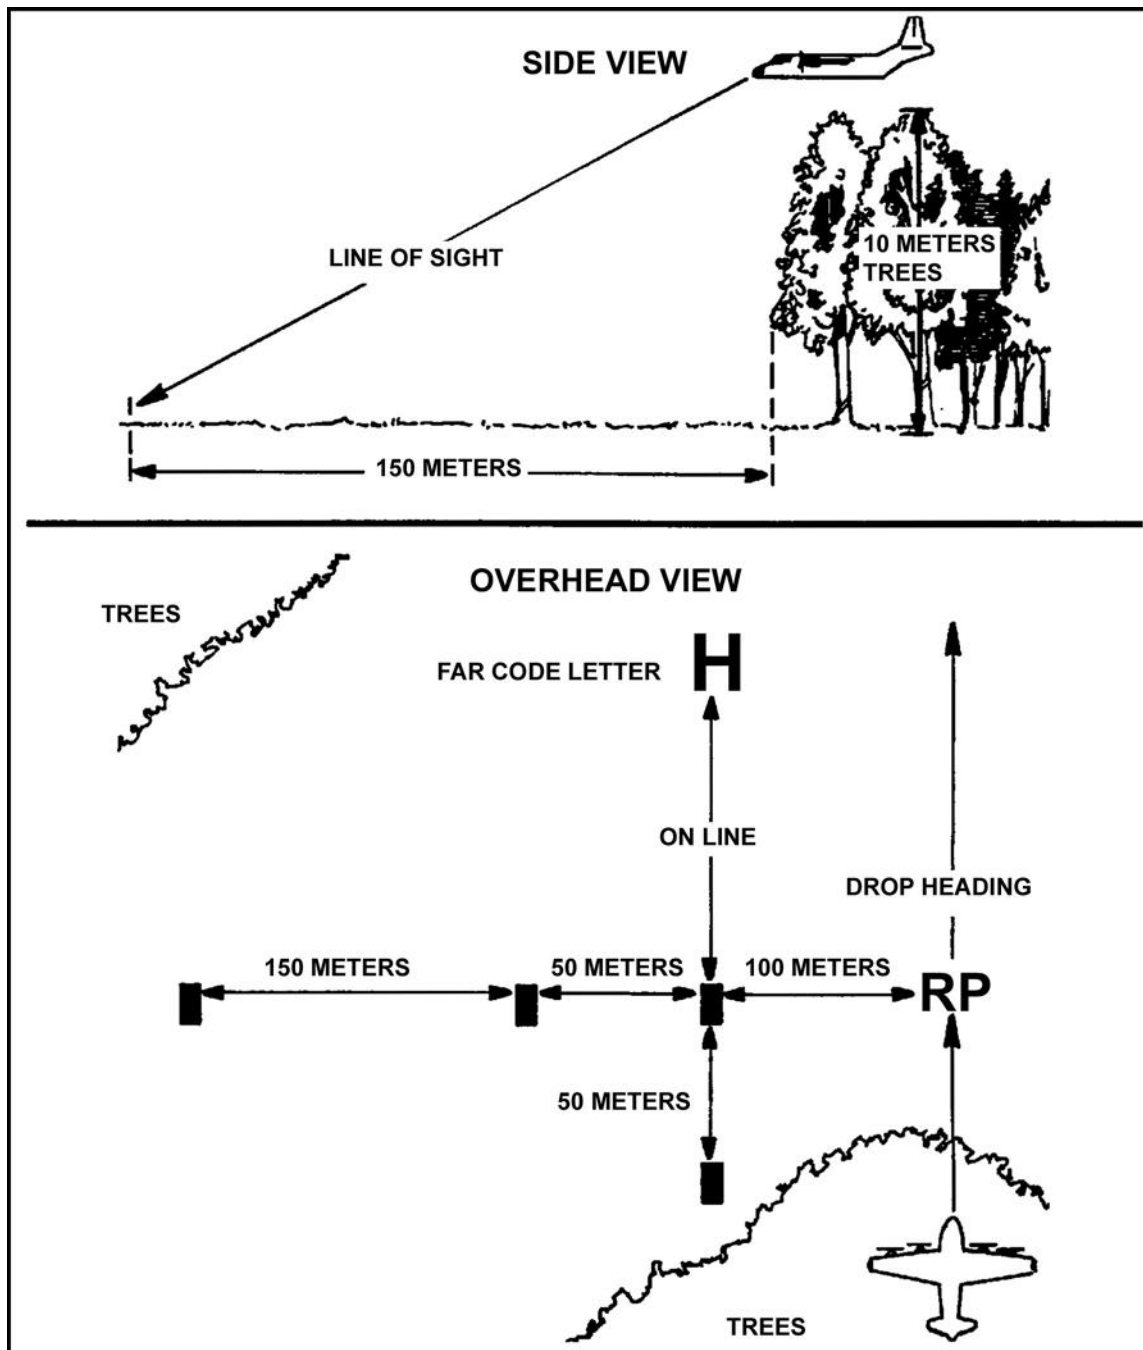

Figure 22-4. The 15:1 mask clearance ratio.
(1) From the RP, move 100 meters to the left (90 degrees) of drop heading for the location of the corner (A) panel. Emplace a VS-17G panel with the long axis of the panel parallel with the drop heading. Elevate the panel at a 45-degree angle toward the approaching aircraft. This aids the aircrew and the JM in visual identification of the DZ.
(2) From the corner (A) panel, move in the same direction as above for 50 meters for the location of the alignment (B) panel. Emplace this panel as described above.
(3) From the alignment (B) panel, move 150 meters in the same direction as above for the location of the flanker (C) panel. Emplace this panel as described above.
(4) From the corner (A) panel, move 50 meters on a back azimuth of the drop heading for the location of the approach (D) panel. Emplace this panel the same as described above.
(5) At night, replace all panels with a white omni-directional light. Lights may be shielded on three sides or placed in pits.
(6) During day operations, smoke may be displayed at the RP. During night operations, a white air traffic control light may be used to mark the RP.
(7) NO DROP may be signaled to the aircraft by red smoke, red flares, scrambled panels, or the absence of a planned signal.
c. **Mask Clearance.** Since the aircraft is required to fly along the markings on the DZ, these markings must be visible to the aircrew. The markings are placed where obstacles will not mask the pilot's line of sight. As a guide, a mask clearance ratio of 1:15 is used, that is, one unit of vertical clearance for every 15 units of horizontal clearance. For example, if a DZ marker must be positioned near a terrain mask, such as the edge of a forest that is on the DZ track, and the trees are 10 meters high (33 feet), the markings would require 150 meters (492 feet) of horizontal clearance from the trees (Figure 22-4, page 22-6). This applies to static line jumps only.
d. **Code Letters.** If any portion of the inverted L falls within a 15 to 1 (15:1) mask clearance ratio of obstacles on the approach end of the DZ, a code letter (H, E, A, T) or far panel is required on the departure end of the DZ for CDS or bundle drop and should be coordinated during the DZST/aircrew mission briefing. This far marking is on line with the corner (A) panel to allow the aircrew to begin alignment on the release point until the inverted L comes into view. If a code letter is used, it can be used to distinguish the DZ from other DZs in the area.